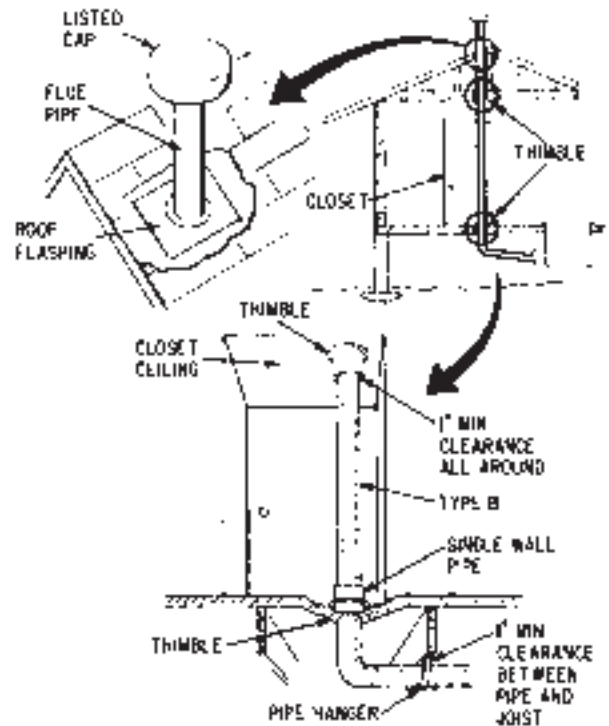

Figure 9
- If you have decided to go up to the roof through a closet, remember that you **MUST** keep a minimum distance of 1 inch between Type B vent pipe and any combustible material. **See Figure 9.** Run it through a single wall pipe that is 2 inches larger in diameter than the flue pipe. Use thimbles when going through floor and ceiling and flashing when going through roof.